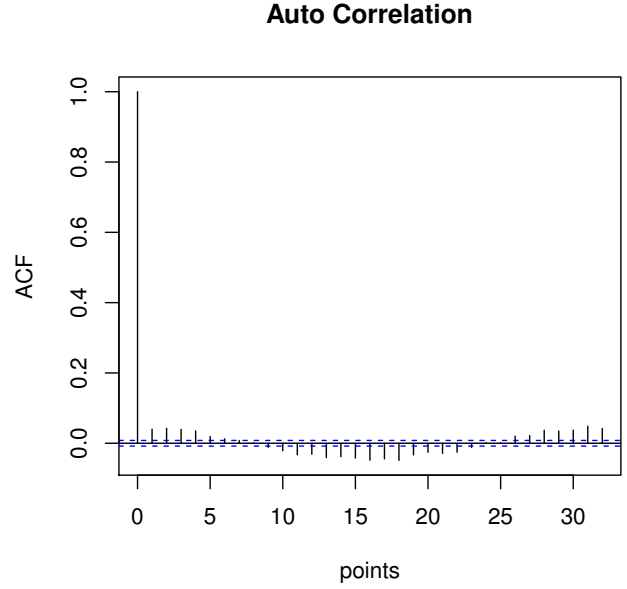

Figure 1. The autocorrelation functions used to discovery the sinusoidal dimension.
- The next parameter to be evaluate is the sinusoid frequency, but to discovery it, is necessary firstly discovery the the sinusoid points, knowing sinusoid points, we need just divide the the dataset points by sinusoid points and then, divide the result by measure time. To discovery how main points is compose a sinusoid we can use the auto correlation:  $COV(X_i(t + \tau), X_j(\tau))$ . In the Figure 1, is possible see the autocorrelation dataset, the sinusoid is composed by 32 points, so the frequency of a sinusoid is  $(60.000\text{points}/32\text{points})/3s = 625Hz$  then the parameter  $f = 625Hz$ .